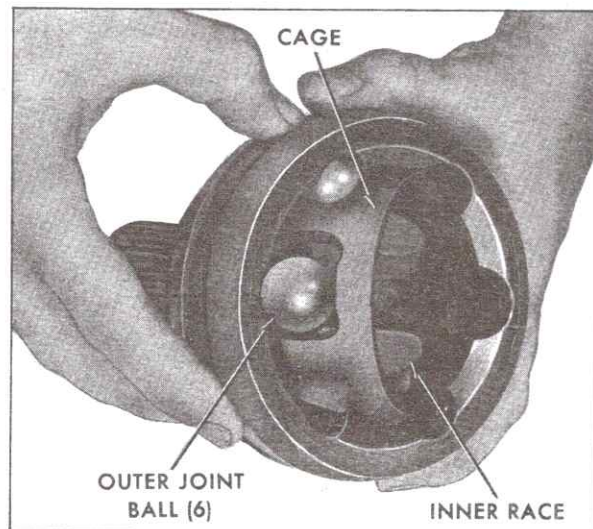

Fig. 3-52 Removing Balls from Outer Joint
7. To remove the balls, hold the constant velocity joint with one hand, then tilt cage and inner race as shown in Fig. 3-52, so that one ball can be removed. Continue until all six balls are removed.
4. Apply lubricant to the inner and outer race and insert balls into outer race one at a time as shown in Fig. 3-52, until all six balls are installed.